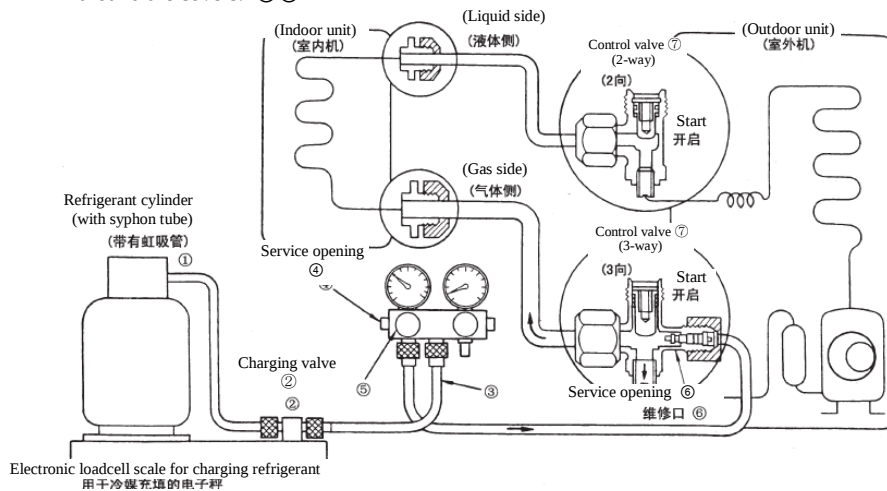

Figure 7 Structure for additional refrigerant charging
(2) The refrigerant pipe required for additional refrigerant charging should be longer than the standard pipe length. (After step e in (1) above, execute the following steps. See Figure 7.)